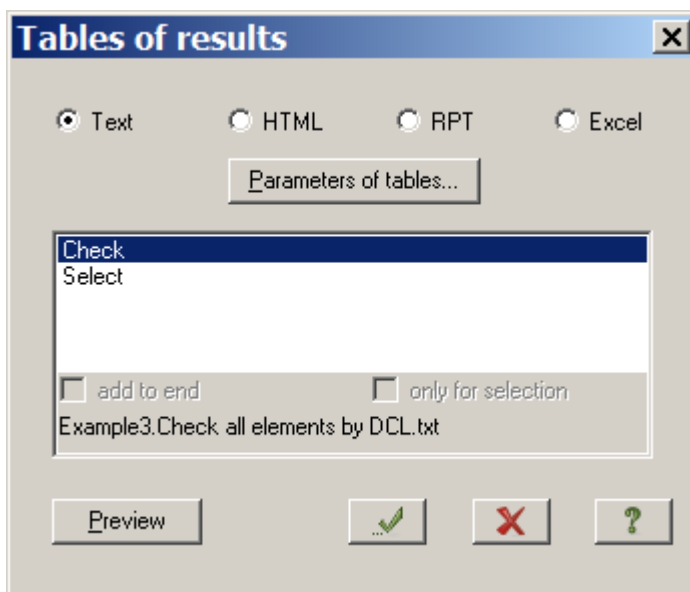

Figure 3.35 **Tables of results (steel analysis)** dialog box
- ⇒ In the **Table of results** dialog box (see Fig.3.35), select the **Check** option.
- ⇒ In the **Table of results** dialog box (see Fig.3.35), define the **Select** option.